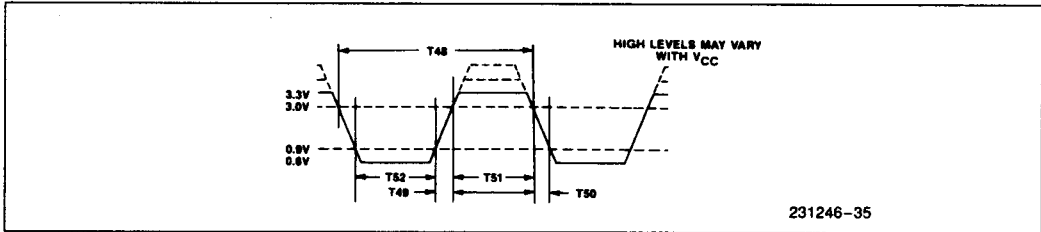

Figure 34. $\overline{\text{Tx}}\overline{\text{C}}$ Input Voltage Levels for Timing Measurements
14. 82C501 compatible levels, see Figure 34